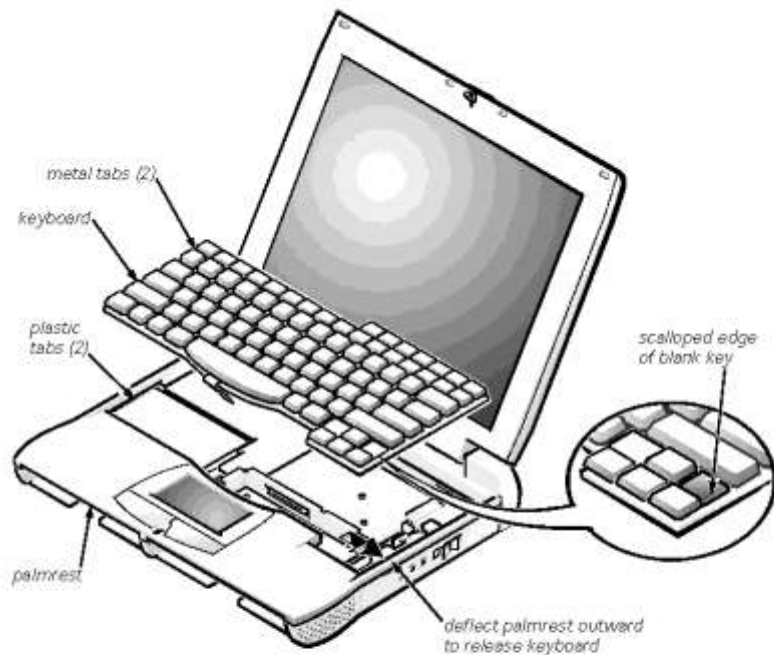

Figure 4-10. Keyboard Assembly Removal
- b. Insert a fingernail or a small flat-bladed screwdriver under the scalloped edge of the blank key (see Figure 4-10), and lift the right edge of the keyboard.